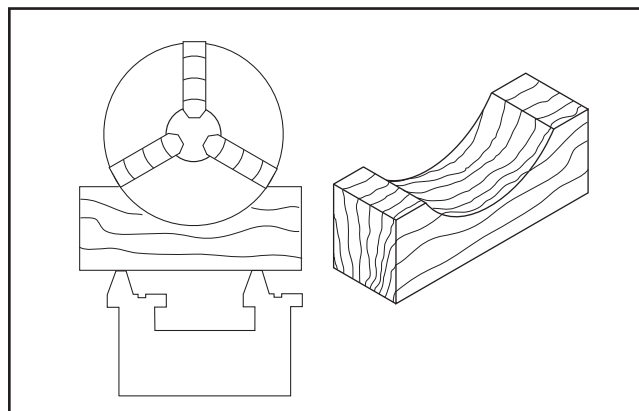

Figure 23. Chuck cradle.
2. Lay a chuck cradle (see **Figure 23**) or a protective layer of plywood under the chuck or faceplate and over the bedway to protect the precision ground surfaces from damage and to prevent fingers from being pinched.